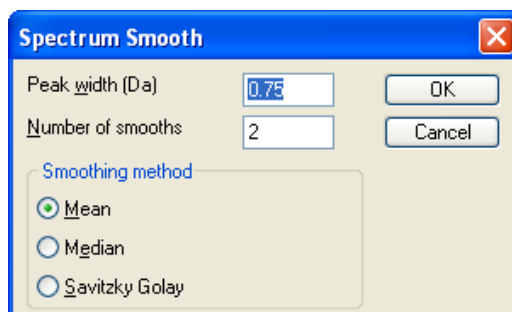

Figure 56 - Smoothing the continuum data
7. Click **Process > Smooth...** set the parameters shown in Figure 56, then click **OK**.